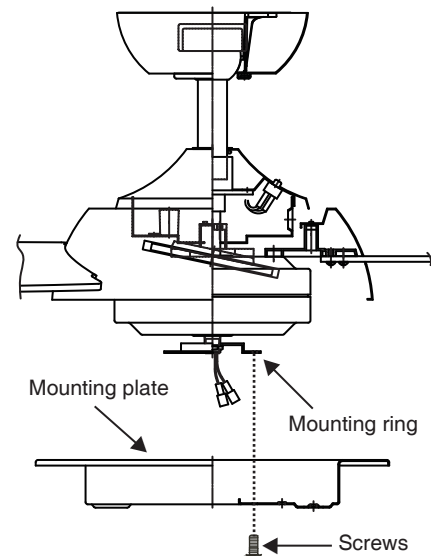

Fig. 12
2. Place the key holes on the mounting plate over the 2 screws previously loosened from the mounting ring and turn the mounting plate until it locks in place at the narrow section of the key holes. Secure by tightening the 2 screws previously loosened and the one previously removed. (Fig. 12)